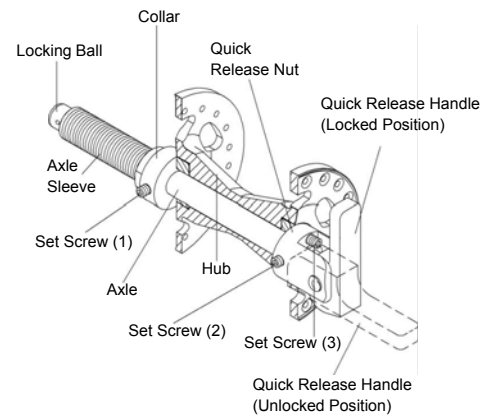

Figure 87
1. Flip the quick release handle to the unlocked position and remove rear wheel and quick release axle. See Figure 87.
1. Flip the quick release handle to the unlocked position and remove rear wheel and quick-release axle. See Figure 87.